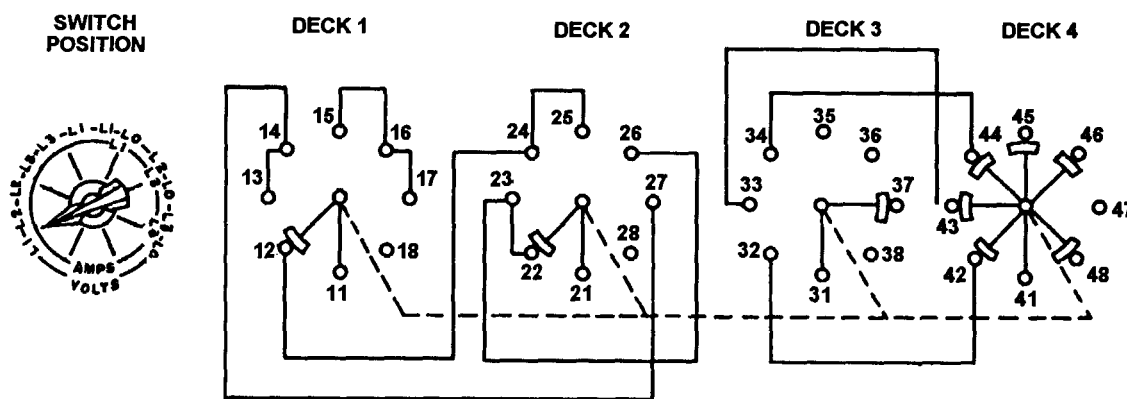

Figure 4-39. Volts-Amps Transfer Switch Schematic Diagram
- (c) Remove nut (39) to remove switch (40) from panel.
- (2) Cleaning and Inspection.
- (3) Testing.
- (b) Check switch for continuity with a multimeter using schematic of Figure 4-39 as a guide.
The wiper contacts shown in Figure 4-39 rotate clockwise to the next set of stationary contacts when the switch shaft is rotated clockwise to the next position.